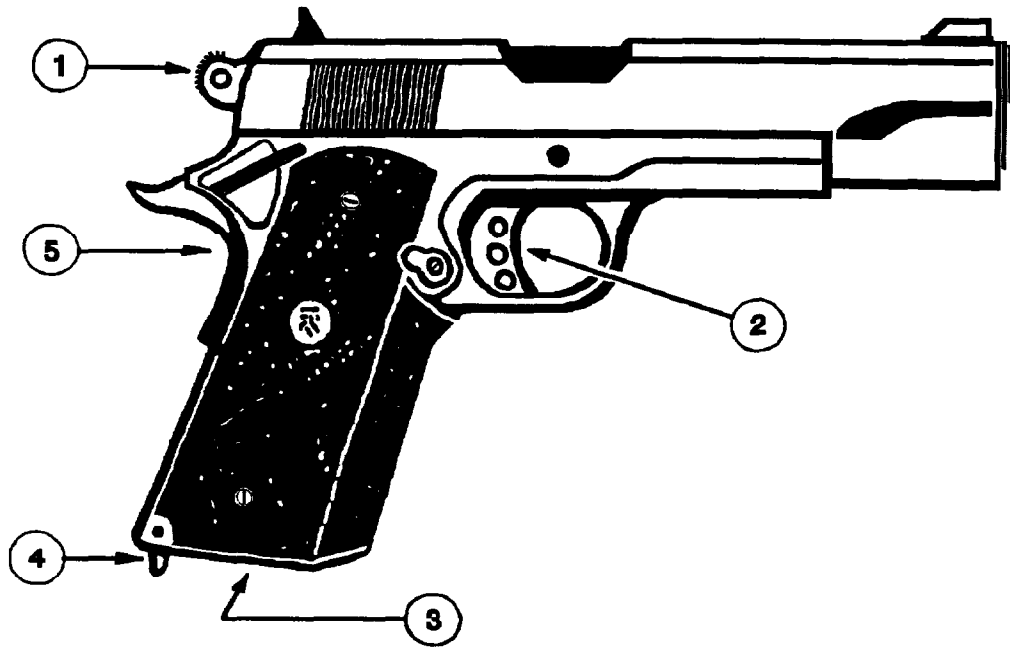

Figure 2-2. MEU(SOC) .45 Caliber Pistol - Right Side
b. The right side of the Pistol, Figure 2-2, reveals hammer (1), trigger (2), magazine well (3), lanyard loop (4), and beavertail grip safety (5).